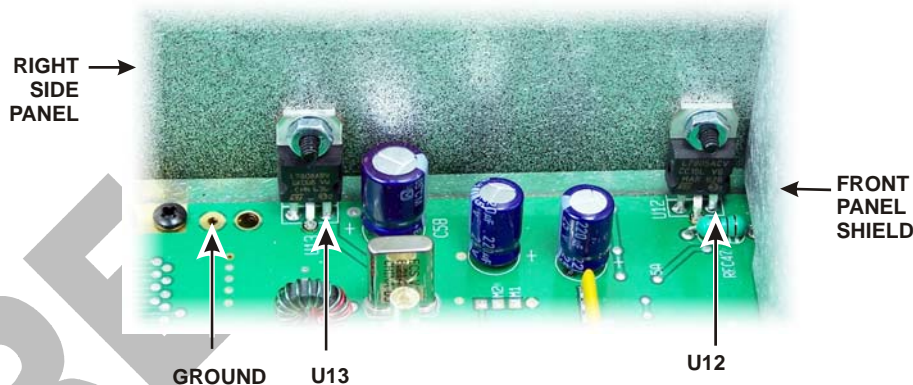

Figure 49. U12 and U13 Test Points.
- Use your DMM to measure the resistance between the terminal on U12 and ground shown in Figure 49. The resistance shall be greater than 500 ohms.
- Use your DMM to measure the resistance between the terminal on U13 and ground shown in Figure 49. The resistance shall be greater than 150 ohms.